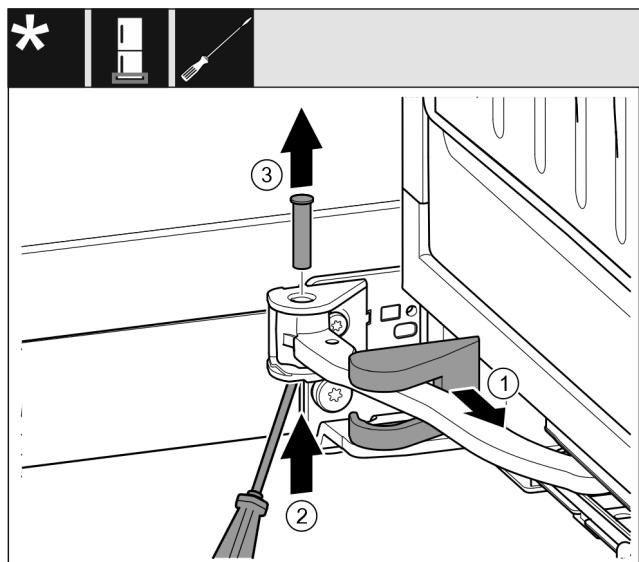

Fig. 17
- ▶ Pull off the swap bearing block cover Fig. 17 (1) and slide it along the joint.
- ▶ Use the screwdriver to lift the pin Fig. 17 (2) from the bottom.
- ▶ Pull the pin Fig. 17 (3) out from the top.